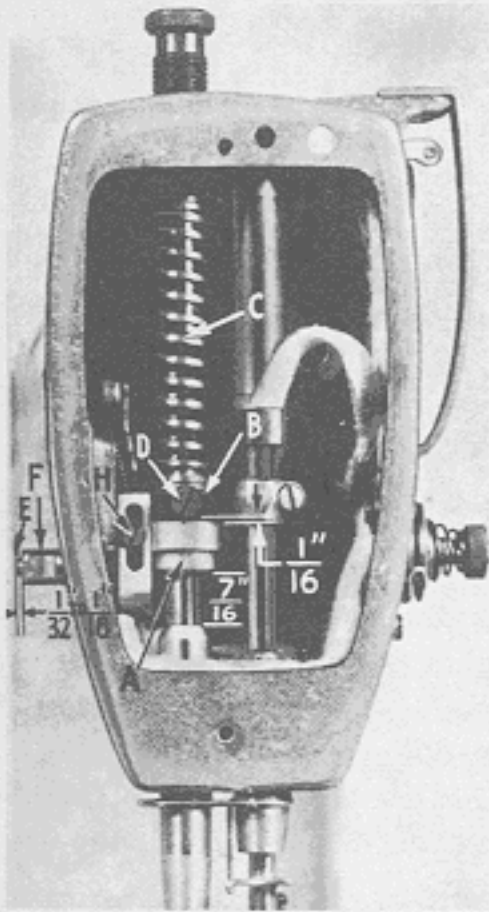

Fig. 16A
The presser bar connection (A, Fig. 16A) should be set so that it is about  $7/16$  inch above the lower presser bar bushing (Fig. 16A). This is accomplished by tipping the machine back against the rest pin, loosening the lock nut (A, Fig. 15) and relocating the stop screw (B) on the lifter lever bell crank (C). By turning the stop screw to the right or left, the proper setting of the presser bar connection is accomplished. Tighten the lock nut (A) to lock the stop screw in place.
When locating the presser bar guide (B, Fig. 16A), the presser foot must rest directly against the throat plate with the feed dog in its lowest position. The guide is set properly when there is a  $1/16$  inch space between guide (B) and presser bar connection (A, Fig. 16A).
2. Solenoid plunger pin (E, Fig. 16A) must touch tension release pin and the end of solenoid plunger pin must protrude a minimum of  $\frac{1}{32}$  inch to a maximum of  $\frac{1}{16}$  inch. If adjustment is required move tension post assembly in or out by loosening set screw located under machine arm and moving stop screw (B, Fig. 18A) as required.
3. Tension release solenoid is secured to flat of bushing (F, Fig. 16A) with a set screw in bracket. Solenoid plunger pin (E) is to have approximately .005 inch clearance between it and the tension release pin without thread in the tension disc.
4. The manual tension release cam (G, Fig. 16A) should be set so that it will not release thread tension when the presser foot is raised for back tacking.